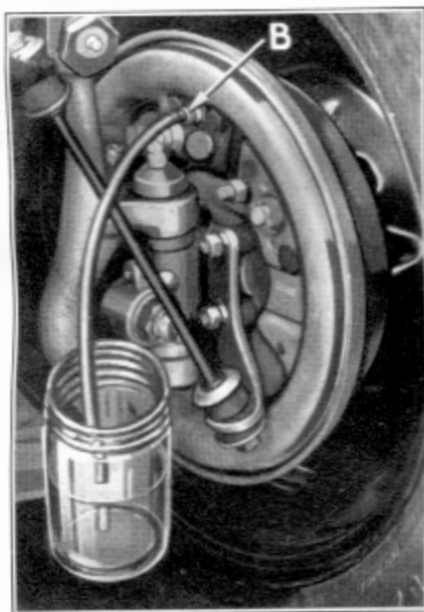

Figure 48
1. Remove wheel cylinder bleeder screw and attach end of bleeder hose, as illustrated in Figure 48, in its place and allow free end to hang in a jar partially filled with liquid.
2. Unscrew bleeder valve (B) $\frac{3}{4}$ of a turn.